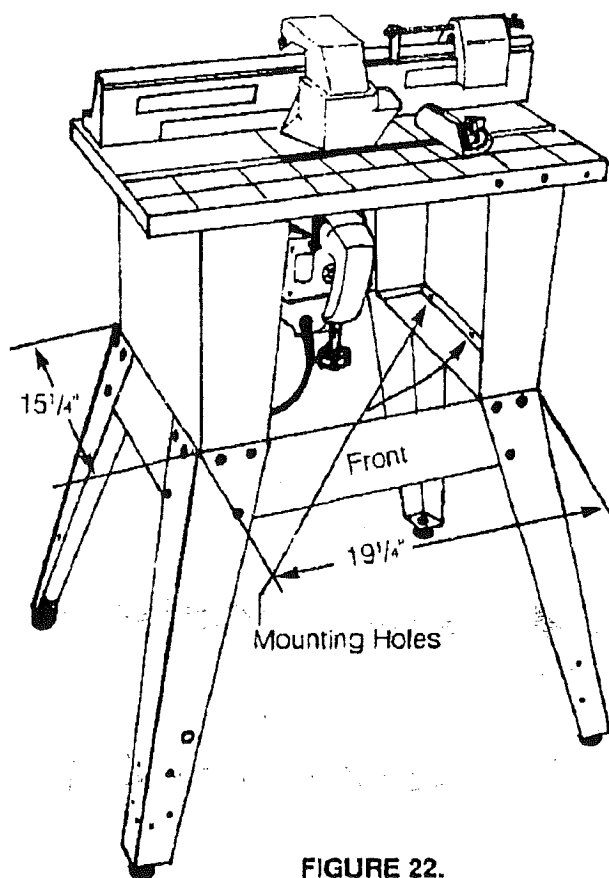

FIGURE 22.
1. Place the router table on the assembled leg set with the router table base flush with the front of the leg set. The holes in the base of the router table should align with holes in the leg set as shown in figure 22.